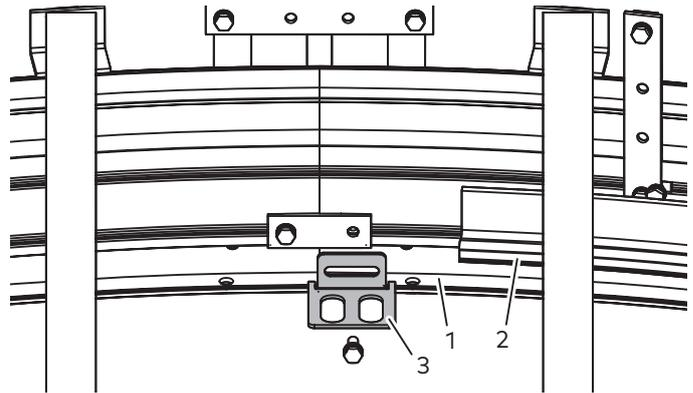

Fig. 46 Mounting of inside angle brackets
1. Attach the angle bracket (Fig. 46/3) to the ceiling half (Fig. 46/1) using the screw supplied, to which the track (Fig. 46/4) for the night shield is also mounted.
If the two ceiling halves are already connected, the screw must be replaced by the enclosed screw on the ceiling half (Fig. 46/1), which is also fitted with the night shield rail (Fig. 46/4).